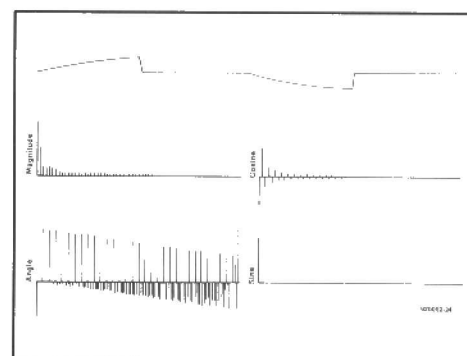

Fig. 3. Phase-controlled AC wave.
*Wave II* shows a phase-controlled AC source as found in many light-dimmer circuits using bi-directional semiconductor devices to produce the desired variable AC source as the one shown. For a 50% control ratio, that is, half the power transmitted, the print screen of the Fourier analysis shown in Fig. 3 reveals a handful of harmonics despite the fact that only half the power is transmitted. Practically, the level of harmonics can be neglected as long as its magnitude does not exceed 20% of that of the fundamental component.